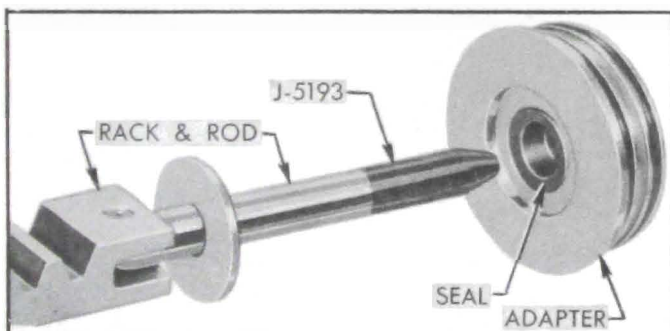

Figure 7-16—Application of Rod Inserter J 5193
22. Install new O-ring seals in both grooves of power cylinder adapter. Place stop plate on piston rod, then install Rod Inserter J 5193 to protect the seal as rod is pushed through seal and adapter. See figure 7-16. Install thrust washer, piston with rings, thrust washer, and safety nut on piston rod and tighten securely.